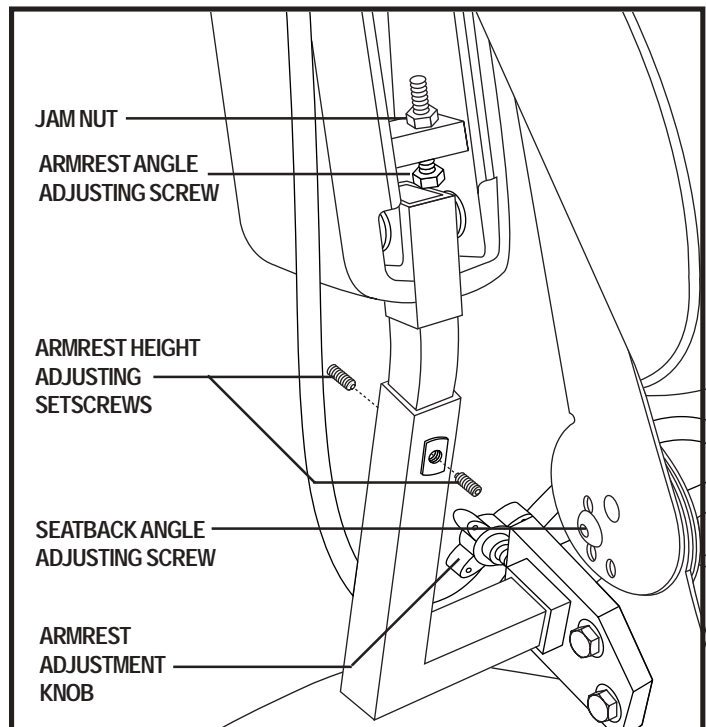

Figure 15. Seatback and Armrest Adjustments
1. Remove the seatback angle adjusting screws from both seat hinges. See figure 15.
1. Locate the two adjustment knobs on the armrest receiver bracket. See figure 15.
1. Lift the armrest straight up so that it is perpendicular to the floor. See figure 15.
1. Loosen the two setscrews located on the armrest receiver. See figure 15.